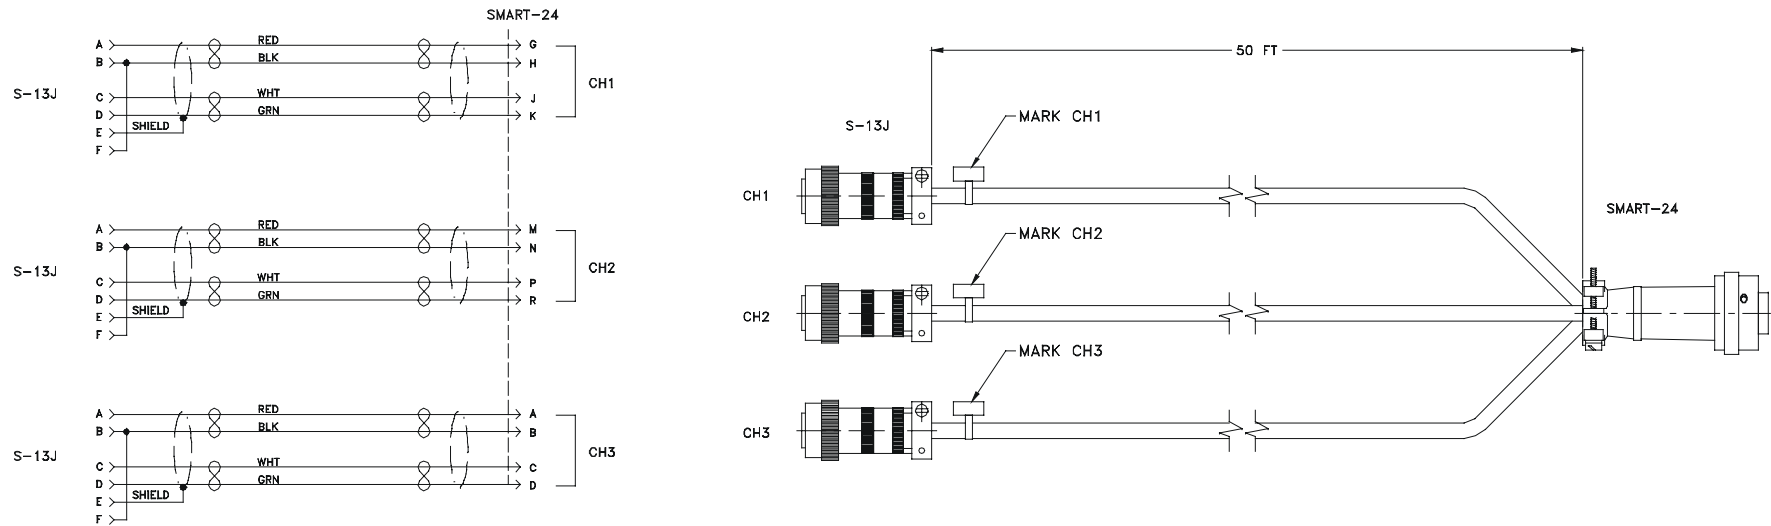

Figure A-9. SMART-24 to S-13J Cable
- Figure A-9. SMART-24 to S-13J Cable